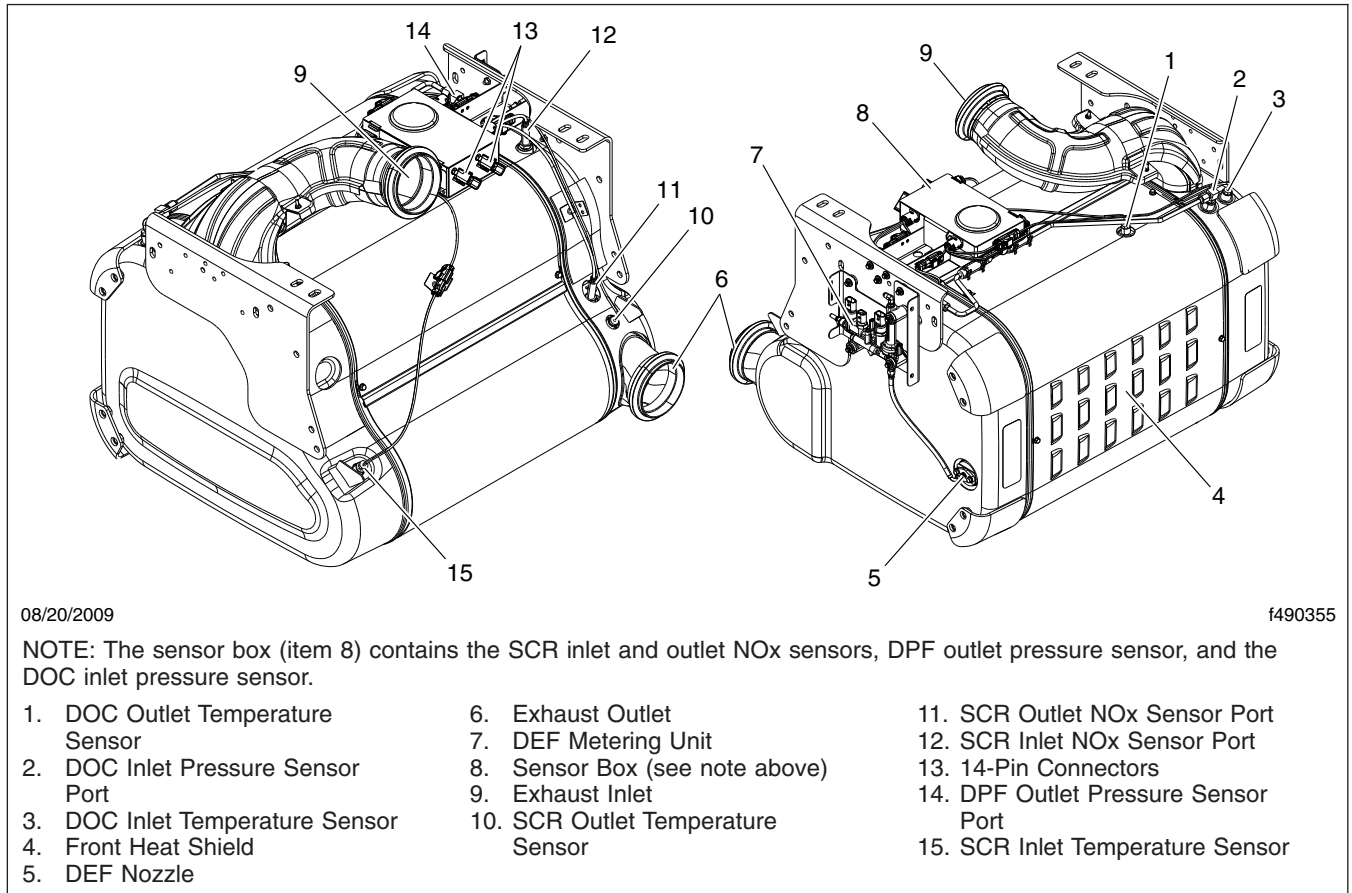

Fig. 1, One-Box ATS Sensor Locations (EPA10)
6. Check all sensors attached to the ATS for leaks or damaged wires. No leaks are allowed. See Fig. 1, Fig. 2, or Fig. 3 for Detroit Diesel ATS sensor locations.